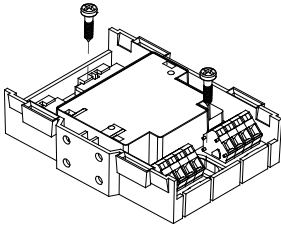

Fig. 2
- Installation directly in a switching cabinet or a control unit: mount the module on an even surface (Fig.2).
- Fix module with two screws M4X15 (Fig. 2). Distance between holes: 63.5 ± 1.0 mm.